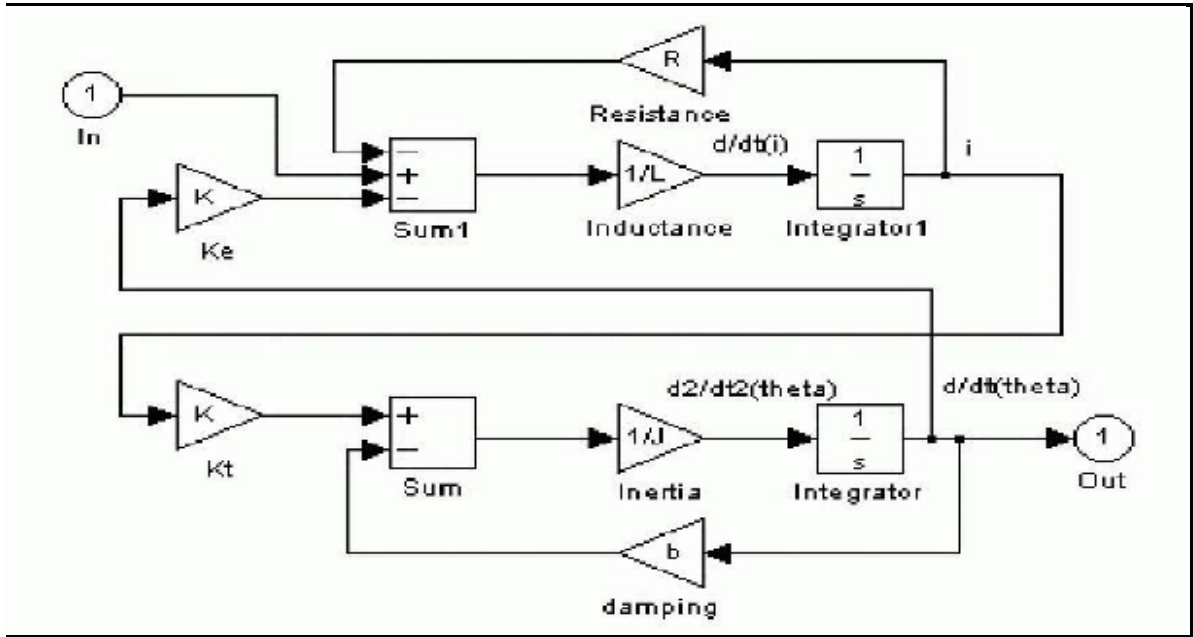

Figure 7: Armature Controller DC motor system with input, output blocks to extract the transfer function.
Figure 28: The Plot of Speed of DC motor shown in the figure 7 when armature resistance =6 <math>\Omega</math>, and Different Value of Torque. ....	23
Figure 29: The plot of Current in DC motor shown in the Figure 7 when the Value of resistance =4 <math>\Omega</math>, and Different Value of Torque.....	23
Figure 30: The Plot of Speed of DC motor shown in the figure 7 when armature resistance =8 <math>\Omega</math>, and Different Value of Torque. ....	24
Figure 31: The plot of Current in DC motor shown in the Figure 7 when the Value of resistance =8 <math>\Omega</math>, and Different Value of Torque.....	24
Figure 32: The plot of Torque-Speed load of DC motor shown in the Figure 7 at Different Value of Armature Resistance.....	25
Figure 33: The plot of speed of DC motor shown in the Figure 7 when the value of Armature resistance set to 0.5 <math>\Omega</math> and the input voltage set to 50 V .....	25
Figure 34: The plot of speed of DC motor shown in the Figure 7 when the value of Armature resistance set to 0.5 <math>\Omega</math> and the input voltage set to 100 V .....	26
Figure 35: The plot of speed of DC motor shown in the Figure 7 when the value of Armature resistance set to 0.5 <math>\Omega</math> and the input voltage set to 150 V .....	26
Figure 36: The plot of speed of DC motor shown in the Figure 7 when the value of Armature resistance set to 0.5 <math>\Omega</math> and the input voltage set to 180 V:.....	27
Figure 37: The plot of speed of DC motor shown in the Figure 7 when the value of Armature resistance set to 0.5 <math>\Omega</math> and the input voltage set to 220 V .....	27
Figure 38: The plot of Torque load Curve of DC motor shown in the Figure 7 under changing the Voltage.....	28
Figure 39: The Speed of DC motor shown in the Figure 7 when <math>J=0.05e-3</math>. ....	28
Figure 40: The Speed of DC motor shown in the Figure 7 when <math>J=1e-3</math>. ....	29
Figure 41: The Speed of DC motor shown in the Figure 7 when <math>J=5e-3</math>. ....	29
Figure 42: The Speed of DC motor shown in the Figure 7 when <math>J=10e-3</math>. ....	29
- The input, output blocks were inserted to a DC motor system as show in the Figure 7 to extract it transfer function.